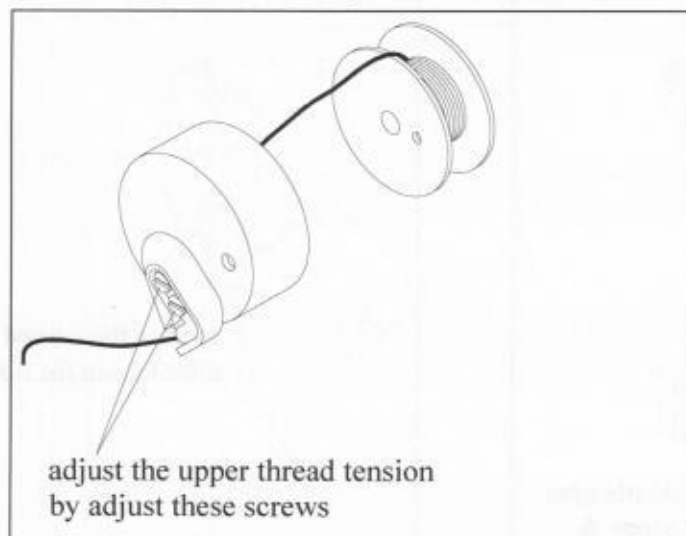

Fig.8
4.7.1 Adjust the screw of thread clamping plate on the bobbin housing to set the tension of upper thread.(as shown in Fig.8)